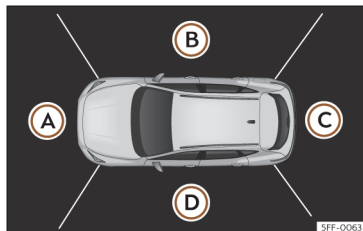

Fig. 156 Display of the Area View system: aerial view.
>>> **Fig. 156:**
The aerial view is generated by combining the images from all the cameras  >>> Fig. 156. The top view can be selected by pressing the vehicle inside the zone.
Press on the different areas >>> Fig. 156 (A) to (D) of the top view or reduced top view to select and set the corresponding view, which will be highlighted in orange.